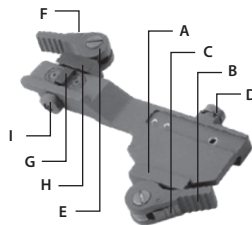

FIGURE 3-5. MOUNTING THE NYX-14 TO A WEAPON WITH A QUICK-RELEASE PICATINNY MOUNT ADAPTER
1. While pushing down on the lever holder (C), turn the lever (B) backwards to loosen the QRM clamping device (A).
2. Install the QRM on the weapon rail by inserting the stop (not shown in Figure 3-5) into one of transverse slots of the weapon rail.
3. To secure the QRM onto the weapon rail, turn the lever (B) forward. Secure the clamping device (A) tightly to the weapon rail. To adjust the force of the lever clamp, loosen or tighten the nut (D) as necessary.
4. While pushing down on the lever holder (F), turn the lever (E) forward.
5. Install the N-14 on the QRM rail by inserting the stop (G) into the transverse slot of the unit rail.
6. Attach the N-14 to the QRM rail by turning the lever (E) backwards. Secure the QRM clamping device (H) tightly to the N-14 rail. To adjust the force of the lever clamp, loosen or tighten the nut (I) as necessary.